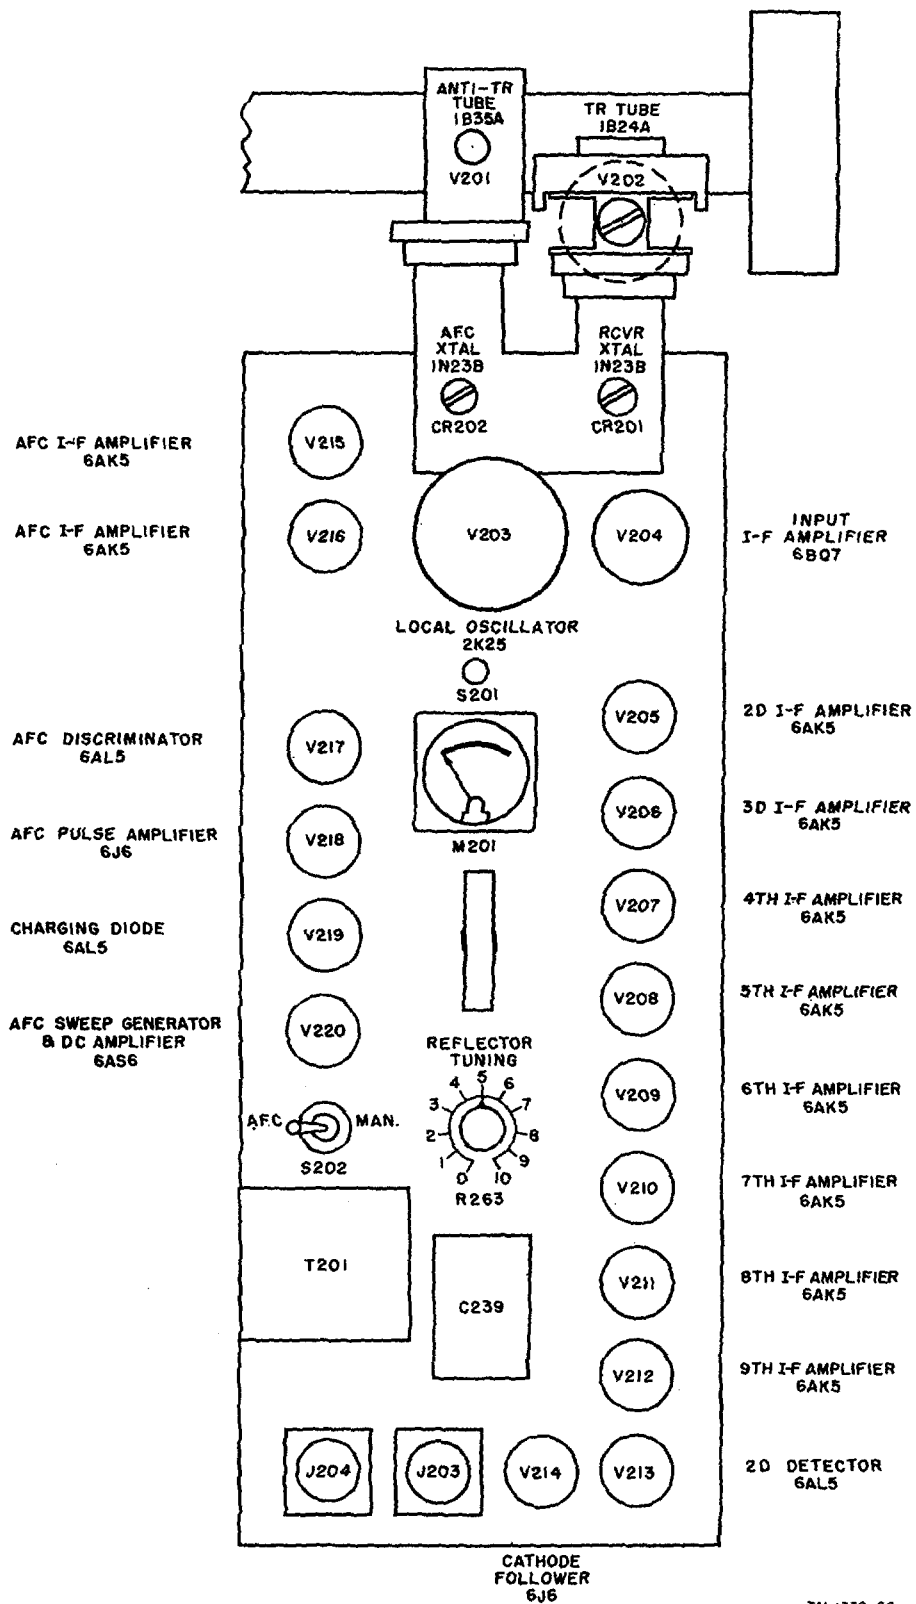

Figure 88. Receiver and duplexer tube location diagram.
(1) All the receiver tubes are mounted on the receiver and held in their sockets by removable shields. The two duplexer tubes, V201 and V202, are mounted on the duplexer: ANTI-TR tube V201 is mounted on the front and TR tube V202 is mounted on the rear. Always replace one tube at a time and make certain that the correct tube is replaced in the proper socket. Refer to figure 88 for the location of tubes.
(2) To gain access to the receiver tubes and to V201, remove the main cover of the receiver-transmitter. To reach V202, open the hinged panel.
(3) Whenever V201 and V203 are replaced they must be retuned. Refer to chapter 2 for alinement instructions.